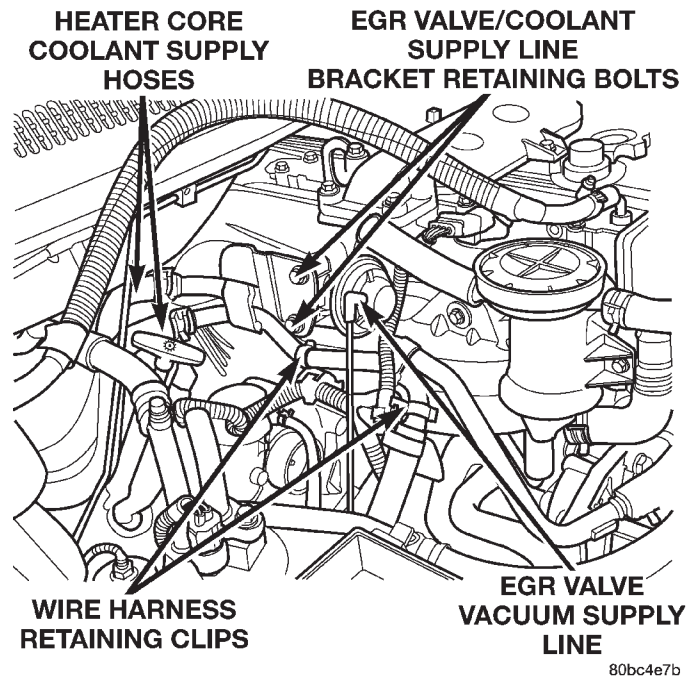
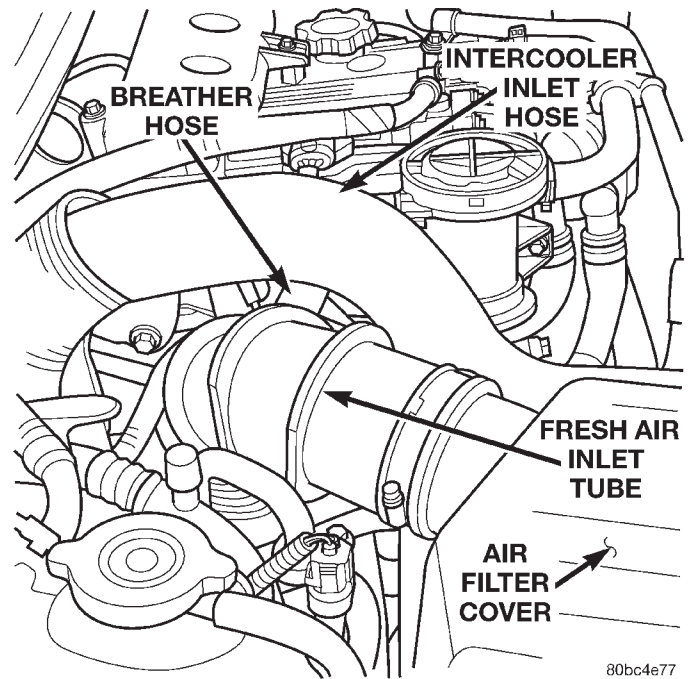

Fig. 24 3.1L Diesel Engine
Fig. 25 Air Intake Hoses
(6) Install the coolant line assembly on the engine. Torque the (3) retaining bolts to 27 N·m (20 ft. lbs.) (Fig. 24).
(7) Connect the crankcase vapor supply and return hoses on the oil separator.
(8) Install the oil separator retaining bolts.
- (9) Clip the wire harness on the coolant supply lines (Fig. 24).
- (10) Install the EGR vacuum supply hose on the EGR valve.
- (11) Install the fresh air inlet tube assembly on the turbocharger. Clip the air filter cover in position and connect the breather hose (Fig. 25).
- (12) Install the intercooler inlet hose on the turbocharger (Fig. 25).
- (13) Check the transmission fluid level and top off if necessary.
- (14) Connect the negative battery cable.
- (15) Start the engine and check for leaks.